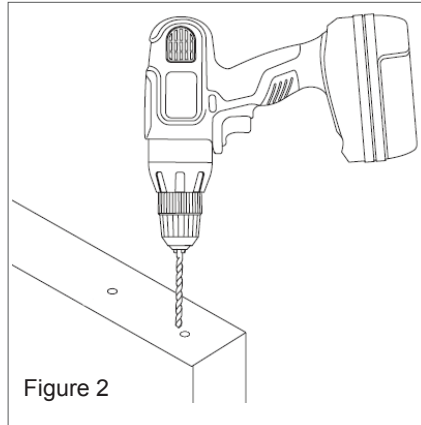

Figure 2
4. Drill two pilot holes for each hanger using an 1/8" bit (Figure 2).
3. Hold the track up to where the pencil line is visible through the holes in the track. Mark an intersecting line in the center of each hole (Figure 2).